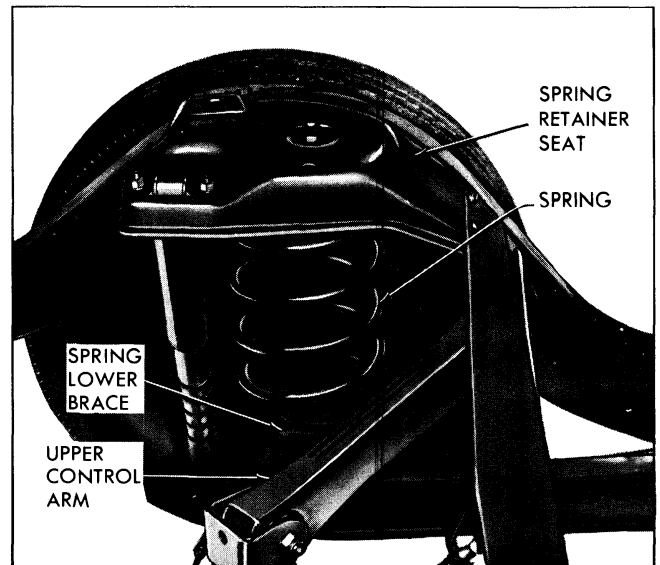

Fig. 3-29 Removal of Rear Shock Absorber
1. Remove nuts, bolts and lock washers at upper end of shock absorber (Fig. 3-29).